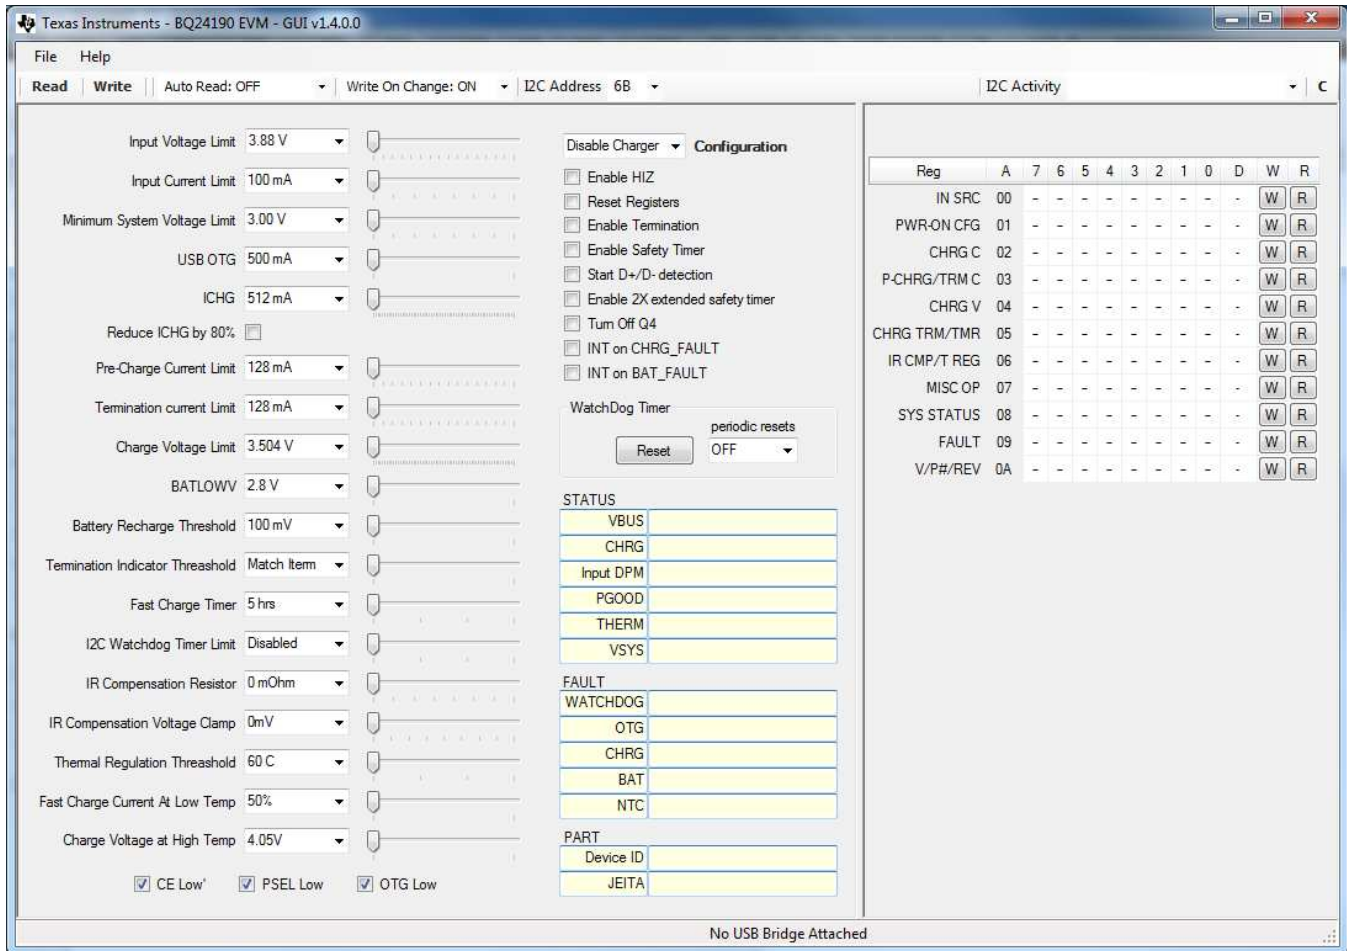

Figure 3. Main Window of the bq24195x Evaluation Software for bq24195/L
- Turn on the computer. Launch the bq2419xEVM evaluation software. The main window of the software is shown in Figure 3.